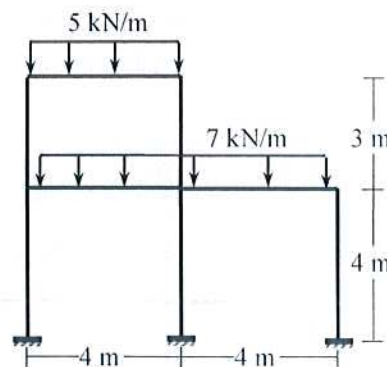

**Fig.7**
7. (i) Draw the qualitative influence lines of the beam shown in **Fig.7**. [05]
- (ii) Analyze the beam to calculate the maximum value of  $R_D$ , if the beam (**Fig.7**) is subjected to a uniformly distributed dead load of 25 kN/m, moving live load of 20 kN/m and 50 kN concentrated load [Given:  $EI = \text{constant}$ ]. [10]